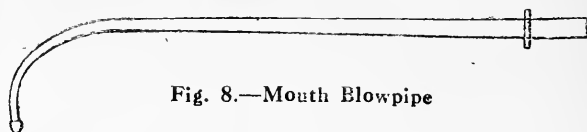
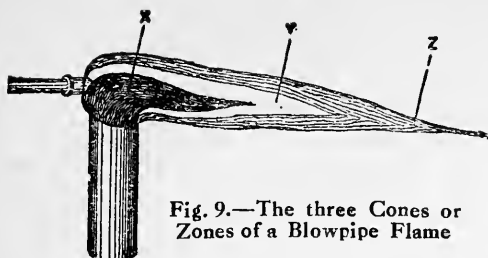
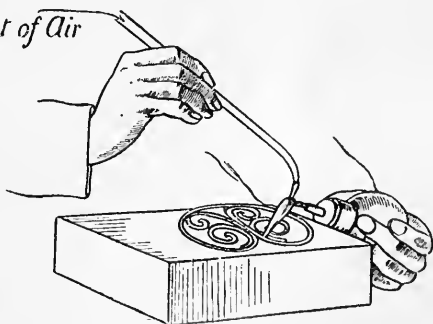

Fig. 8.—Mouth Blowpipe
Fig. 9.—The three Cones or Zones of a Blowpipe Flame
Fig. 10.—Using Mouth Blowpipe with Spirit-lamp Flame
**Soldering with the Blowpipe.**—Not all soldering is done with a soldering bit. Some of the neatest and cleverest work is executed by means of the mouth blowpipe which is simply a bent tube of glass or metal shaped as in Fig. 8. This blowpipe is used for directing a tiny jet of flame upon a speck of solder resting on the spot that has to be soldered. The flame of a candle or spirit-lamp when directed and assisted by the mouth blowpipe becomes hot enough to melt solder most readily, as a single experiment would prove. In using the blowpipe (*see* Fig. 10) a good breath is taken in, so filling the lungs with air. The blowpipe is applied to the base of the flame, and a gentle but constant current of air blown through it. It will be seen that the candle flame has three parts or zones (*see* Fig. 9). That at the base marked x is the coolest of them all, and in a dark room would be almost invisible.